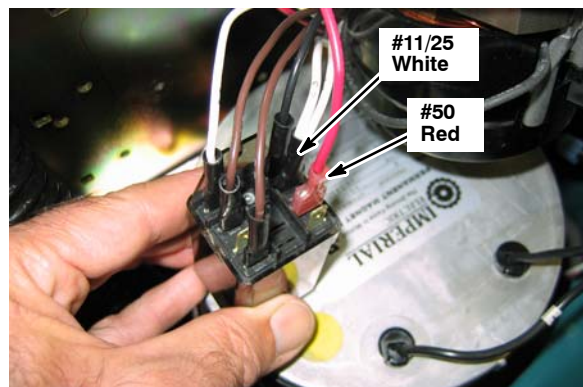

Fig. 11
12. Connect wire #11/25 white (formerly attached to rectifier) and wire #50 red (from new harness) to relay as shown (Fig. 11).